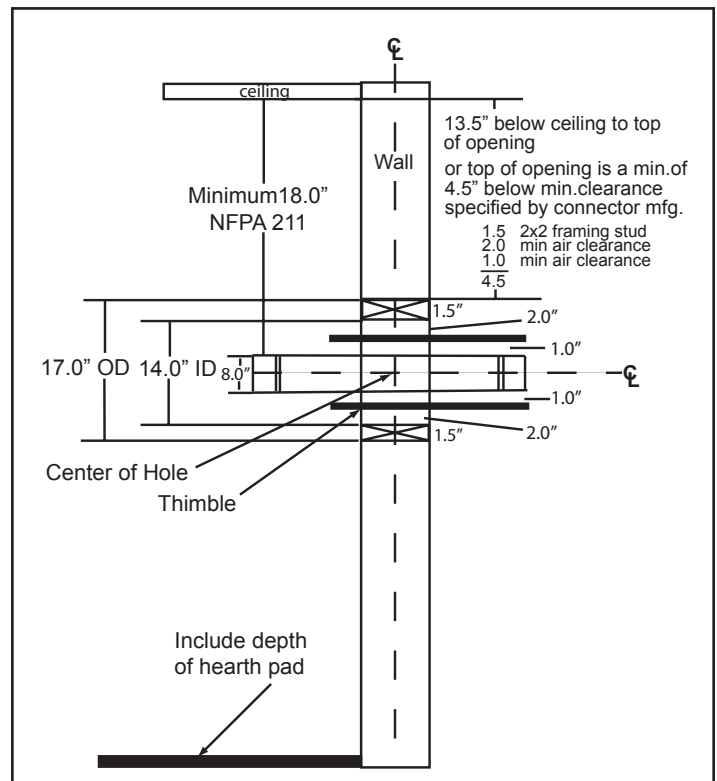

Figure 4.1
- Top of wall opening is a minimum of 13-1/2 inches (343mm) from ceiling or 4-1/2 inches (114mm) below minimum clearance specified by chimney connector manufacturer. NFPA 211 minimum vertical clearance of 18 inches (457mm) from chimney connector and ceiling or minimum recommended by chimney connector manufacturer. **Figure 4.1.**
1. Open inside wall at proper height for the chimney connector to entry the masonry chimney. **Figure 4.1**
3. Construct a 17 inch x 17 inch (432mm x 432mm) outside dimension frame from 2 x 2 framing lumber to fit into wall opening. Inside opening of frame should be no less than 14 inch x 14 inch (356mm x 356mm). **Figure 4.1.**